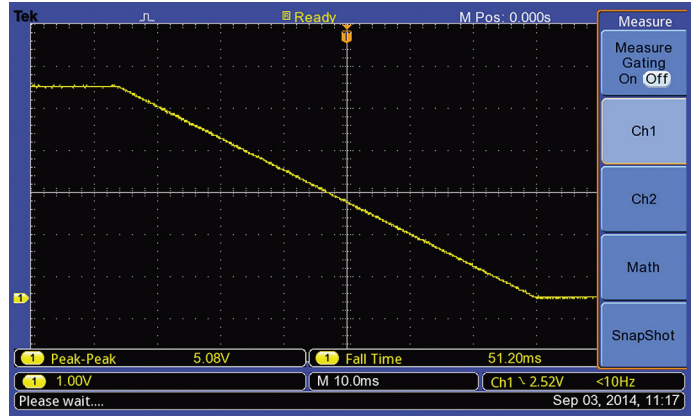

Figure 5. 50ms falling edge becomes the first boundary.
3. Press Output on the power supply to turn the output off. The scope will trigger at the falling edge of the power supply signal. On the oscilloscope, press Measure to confirm the waveform characteristics. In the measurement sub-menu of CH1, select "Fall Time" and "Peak-Peak". Note the fall time is about 50ms (see Figure 5).